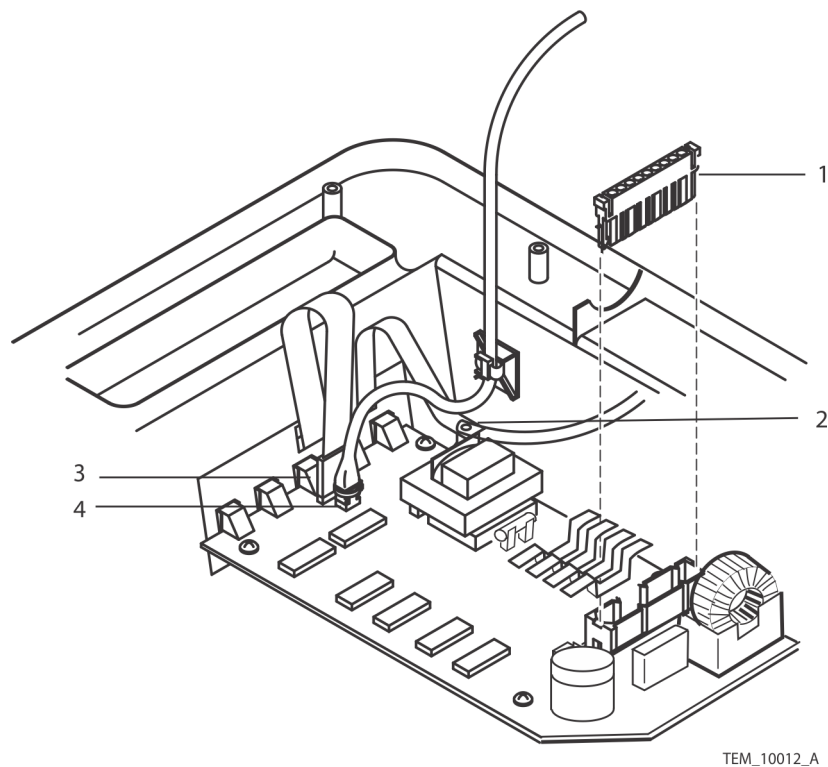

Figure 5-22. Cable Connections
9. Connect the ribbon cable connector (Figure 5-22, item 3).
10. Connect the thermistor cable connector (Figure 5-22, item 4)
12. Connect the 9-pin connector to the Control PCB (Figure 5-22, item 1).